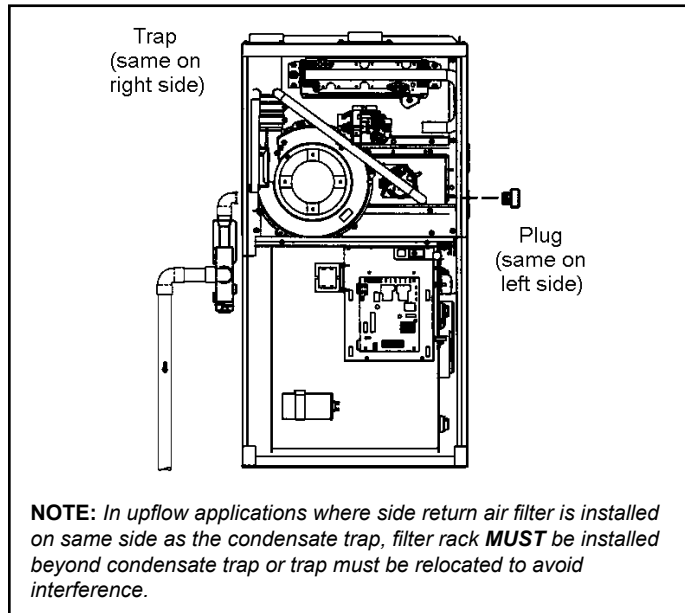
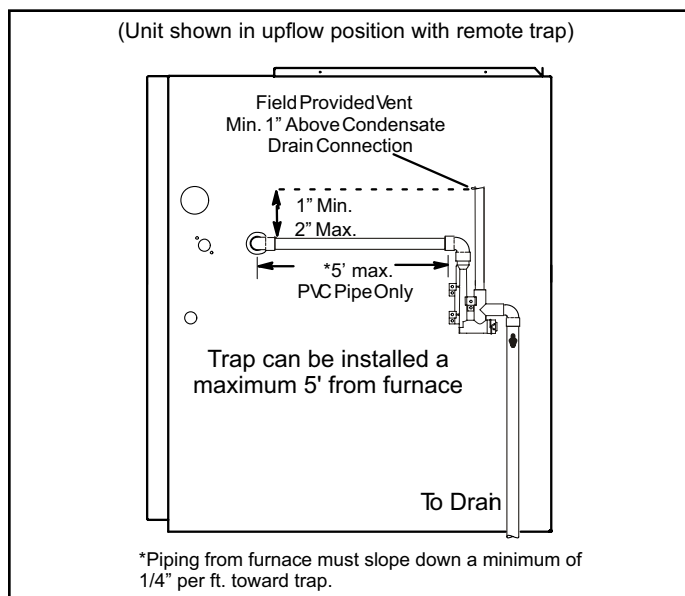

Figure 41. Condensate Trap and Plug Locations (unit shown in upflow position)
Figure 42. Condensate Trap Locations
This unit is designed for either right- or left-side exit of condensate piping in upflow applications. In horizontal applications, the condensate trap must extend below the unit. An 8" service clearance is required for the condensate trap. Refer to Figure 41 and Figure 42 for condensate trap locations. Figure 49 and Figure 50 show trap assembly using 1/2" PVC or 3/4" PVC.
2. For furnaces with a 1/2" drain connection use a 3/8 allen wrench and remove plug (Figure 41) from the cold end header box at the appropriate location on the side of the unit. Install field-provided 1/2 NPT male fitting into cold end header box. For furnaces with a 3/4" drain connection use a large flat head screw driver or a 1/2" drive socket extension and remove plug. Install provided 3/4 NPT street elbow fitting into cold end header box. Use Teflon tape or appropriate pipe dope.